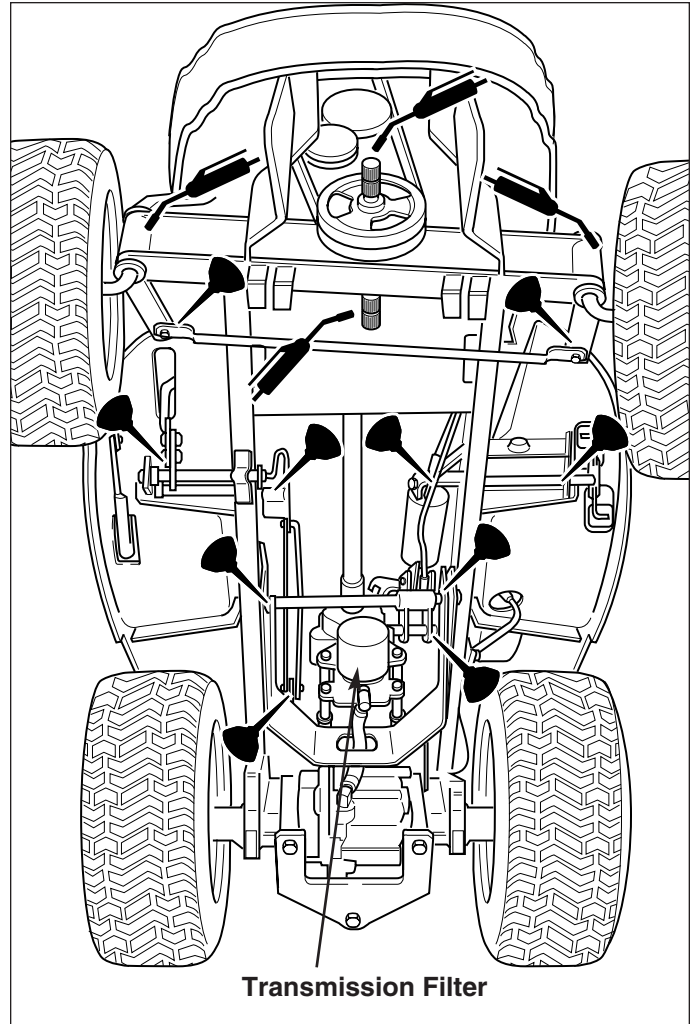

Figure 29. Lubricating the Tractor
2. Clean the base and replace the filter using an appropriate filter wrench (see Figure 29 for filter location). Reinstall the drain plug.